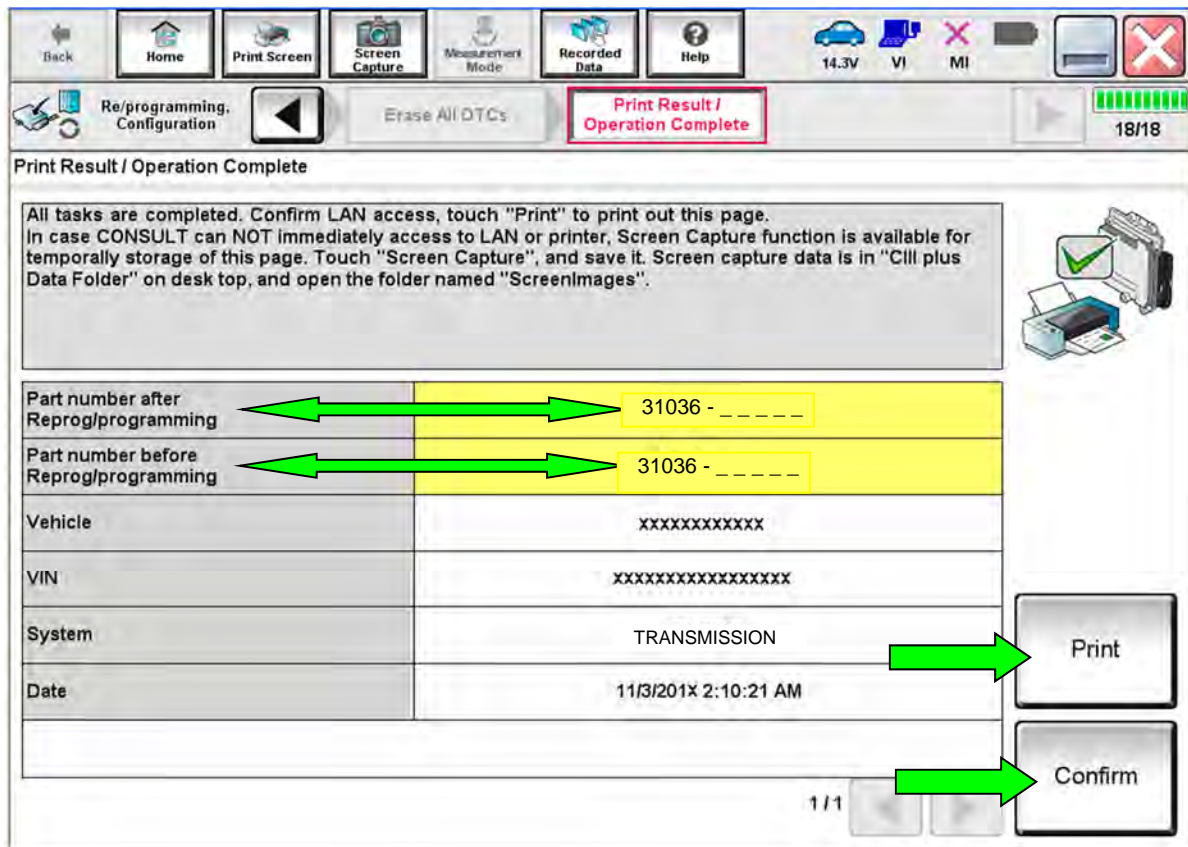

Figure 196
- 174. When the entire reprogramming process is complete, the screen in Figure 196 will display.
- 176. Print a copy of this screen (Figure 196) and attach it to the repair order for warranty documentation.